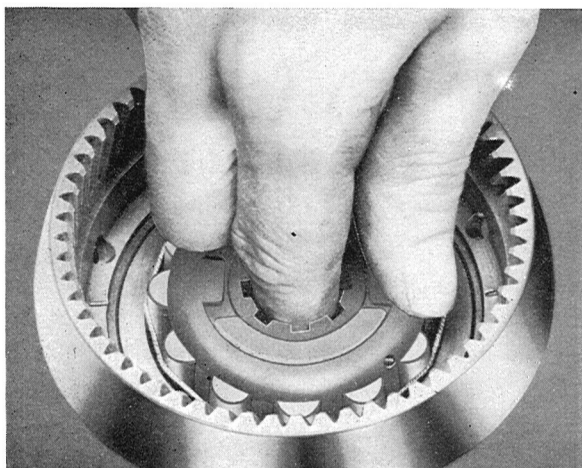

Fig. 4-62. One-way clutch installation
6. Install the thrust washer and then the one-way clutch in position on the output shaft, see Fig. 4-62.